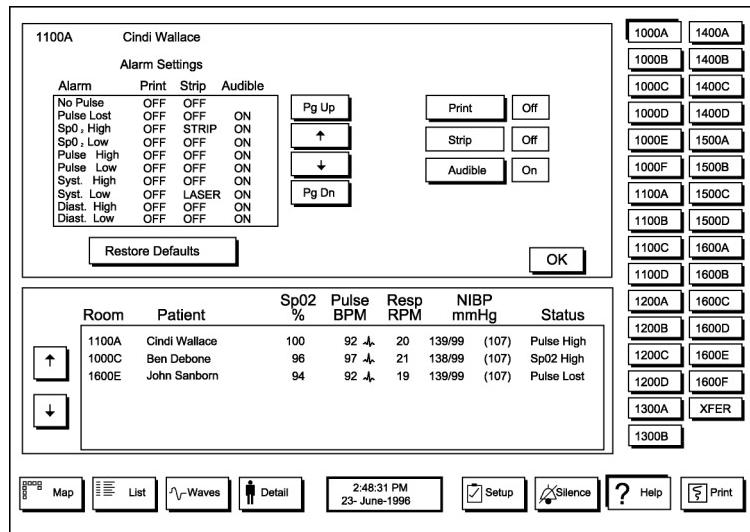

Figure 39: Alarm Settings Screen
3. Click the Alarm Settings button. The Alarm Settings screen is displayed, as shown in Figure 39.